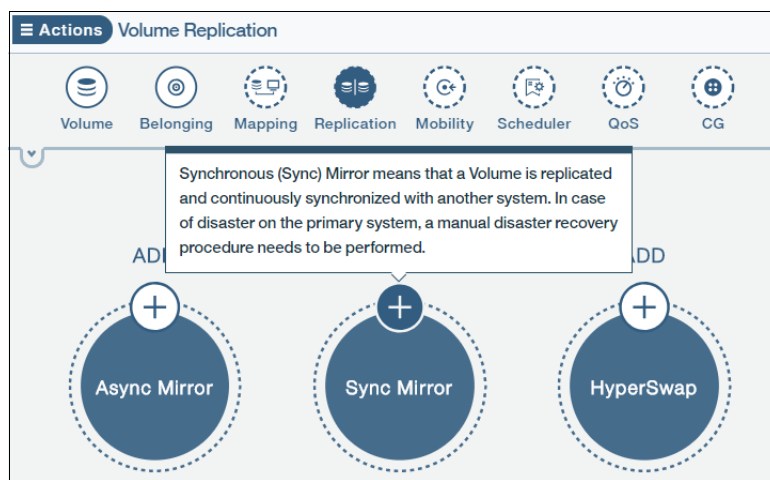

Figure 4-18 Selecting volumes for sync mirroring
The role of a peer indicates its current operational function (either primary or secondary). The operational role of a peer can change as the result of user commands or actions. Peer roles typically change during DR testing or a true disaster recovery and production site switch. When a mirror coupling is created, the first peer specified is the source for data to be replicated to the target system, so it is given the primary designation and the primary role. The first peer can be, for example, the volumes or consistency group (CG) at site 1, as shown in Figure 4-18.
1. Select the volumes in the **Volume** view and select **Replication** in the Hub view, followed by clicking on **+ Sync Mirror**, as shown in Figure 4-18.